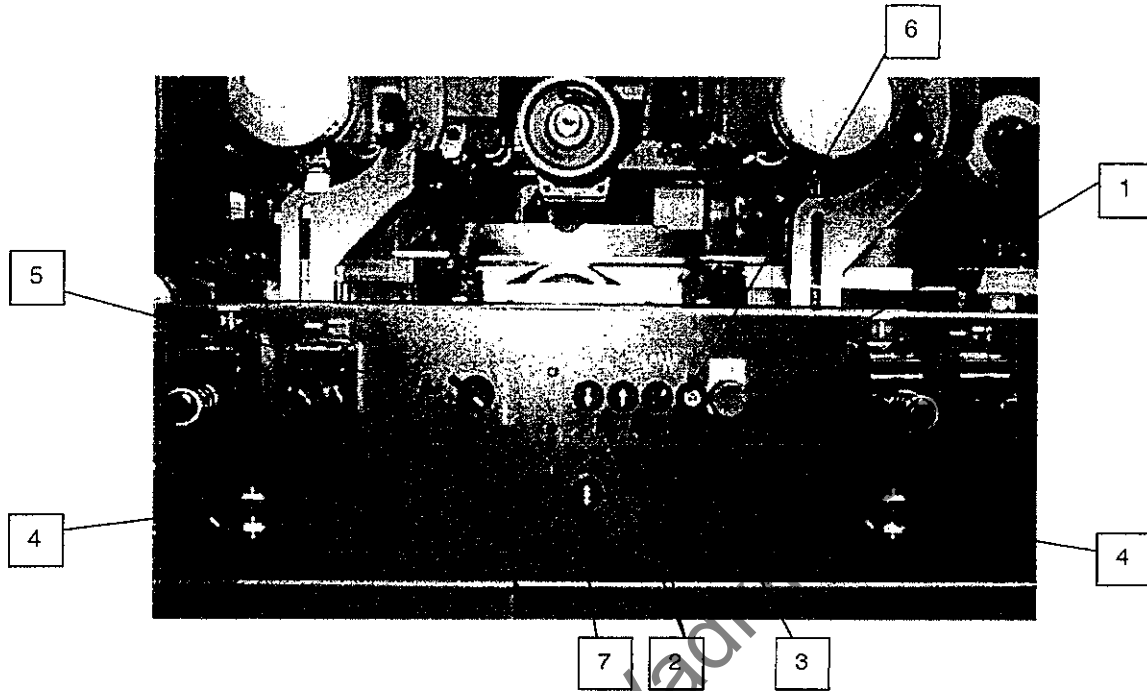

Figure 4.2.2
Similar buttons are also on the local control panel located beneath the first top head. (see Figure 4.2.2).
The machine front face controls are located beneath the first top head and consist of a number of buttons, switches and indicators (see Figure 4.2.2).
- 1 Unclamp the pneumatic lock on the head ((1) on Figure 4.2.2).
- 2 Using the crank handle adjust shaft (6) until the spindle flange is the required amount below the level of the bed.
- 3 Clamp the pneumatic lock on the head ((1) on Figure 4.2.2).
- 2 Using the crank handle, adjust shaft (4) until the cutter block is the required depth below the level of the bed.